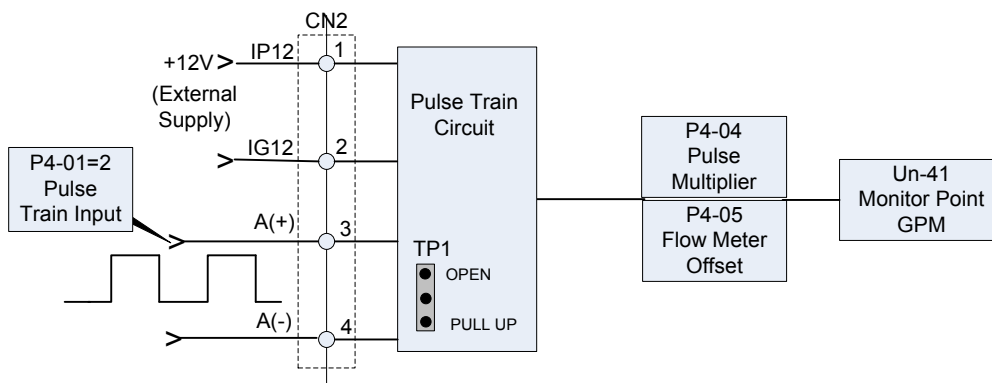

Fig. 9.2.4.12 Flow Meter Function with Pulse Train Input
- Fig. 9.2.4.12 below is a diagram of the flow meter function while Flow Meter Selection P4-01 is set to 2 (Pulse Train Input).